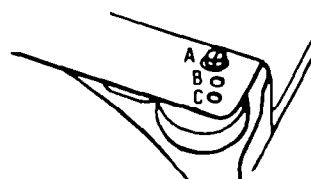

FIGURE 11
10. To adjust the height, remove screw from position "A" in Figure 11. Move the rear wheel and screw to position "B or C":